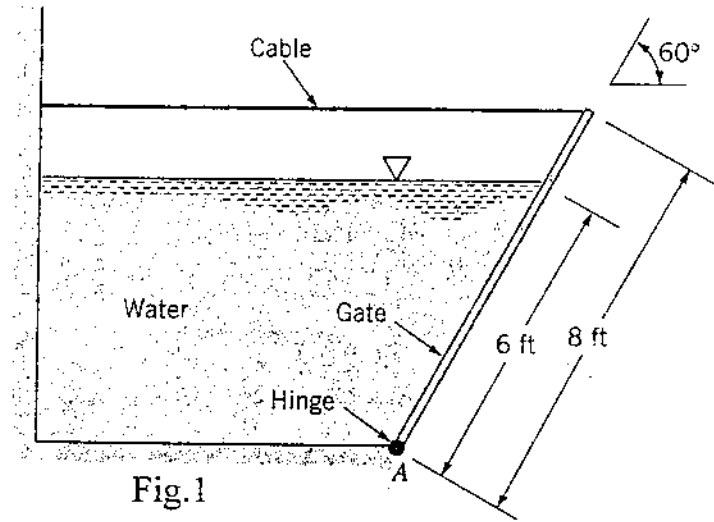

Fig.1
1. A homogeneous, 4-ft-wide, 8-ft-long rectangular gate weighing 800 lb is held in place by a horizontal flexible cable as shown in Fig. 1. Water acts against the gate which is hinged at point A. Friction in the hinge is negligible. Determine the tension in the cable. (10%)